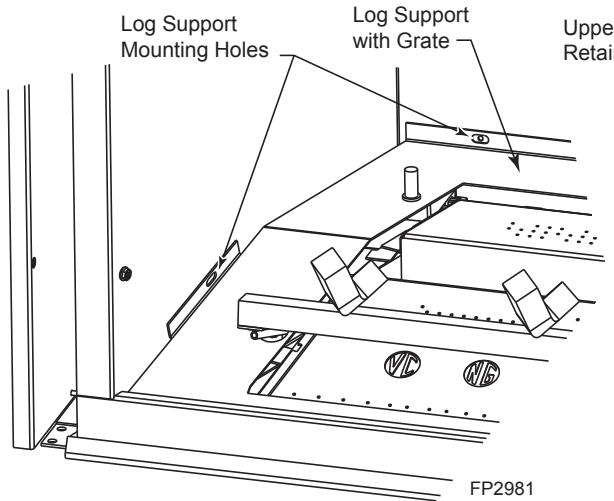

Figure 22
2. Install log support bracket by installing two (2) screws provided into holes in rear wall of insert chamber. Install one (1) screw into hole in left and right sides of insert chamber. *Figure 22*